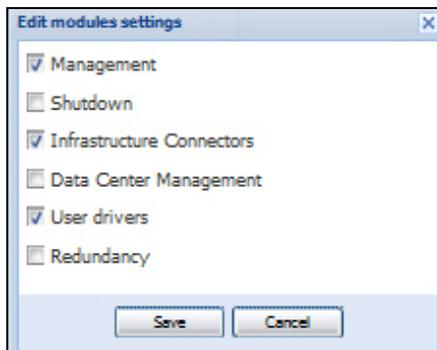

Figure 132. Enable Infrastructure Connectors Setting for Virtualization
2. Click **Edit modules settings** in the right panel. The Edit modules settings dialog box displays (see Figure 132).